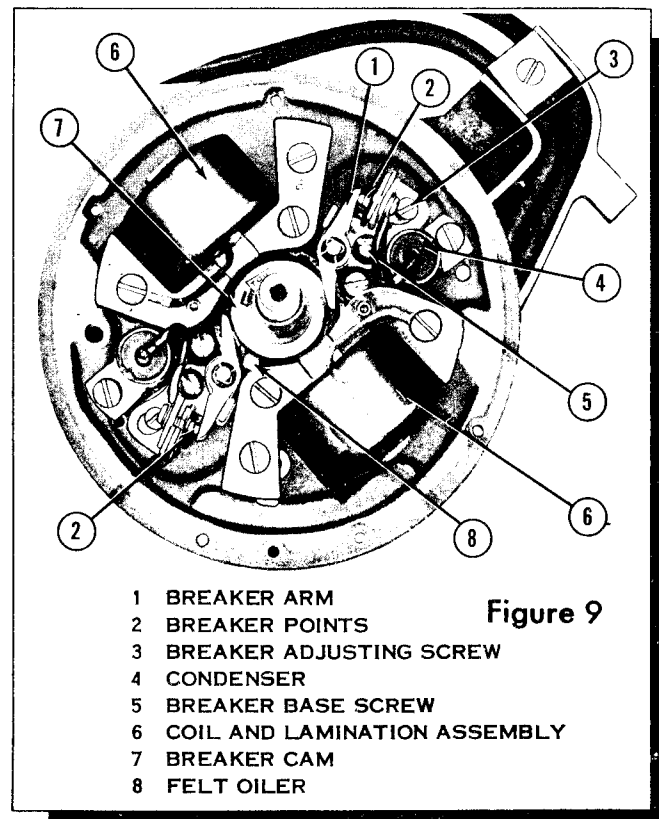
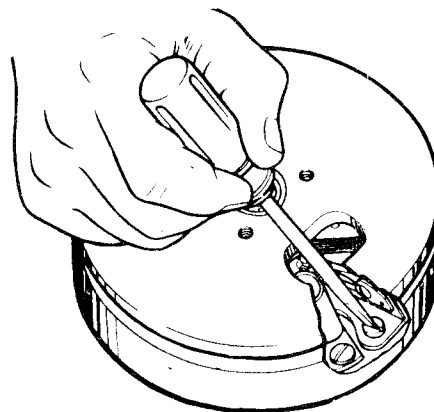

Figure 9
Figure 10
The magneto is equipped with a felt oiler to lubricate the cam and reduce wear on the cam block of the breaker (Figure 9). A few drops of light oil should be put on the felt once or twice a year.
After cleaning, reset point gap to .020 inch maximum opening as follows: When hole in flywheel is directly over the breaker, maximum opening of the breaker is obtained. Check with .020 inch feeler gage. If opening is under or over .020 inch loosen breaker plate screw (item 5, Figure 9) slightly. Turn adjusting screw (item 3, Figure 9) to right or left until required setting is obtained. Tighten breaker plate screw and re-check with gage. See figure 10.